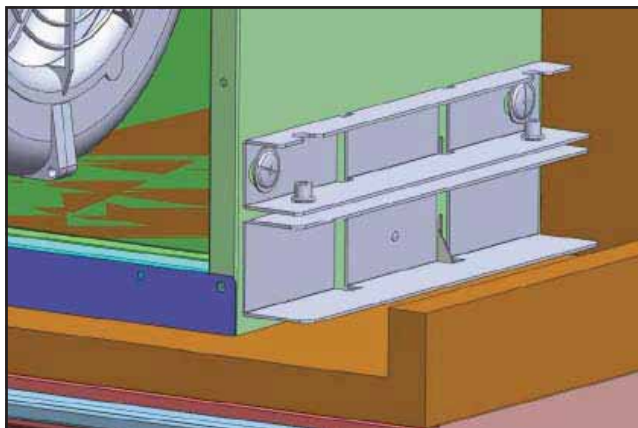

Fig.7
6) Place lower installation brackets under upper installation brackets located on left and right sides of hood body, Fig.7. Note: The wider portion of the lower installation bracket should be at the bottom.